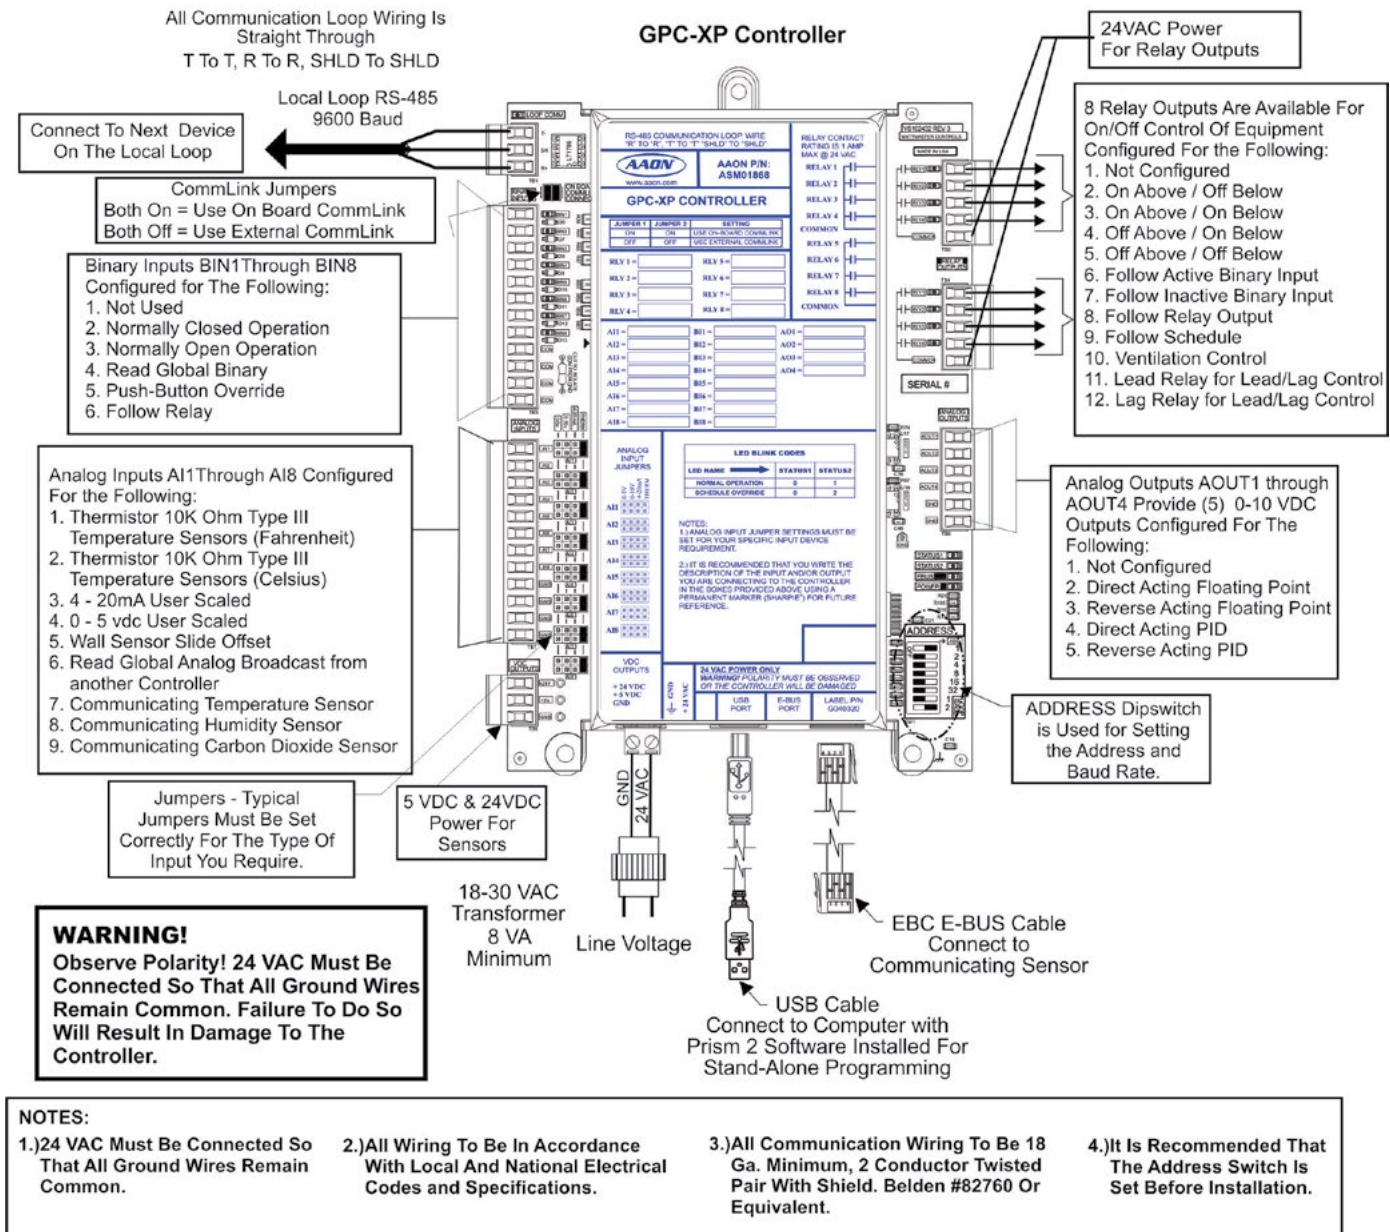

Figure 2: GPC-XP Controller Wiring Diagram
2. Check all wiring leads at the terminal block for tightness. Be sure that wire strands do not stick out and touch adjacent terminals. Confirm that all sensors required for your system are mounted in the appropriate location and wired into the correct terminals. See **Figure 2** below for wiring.